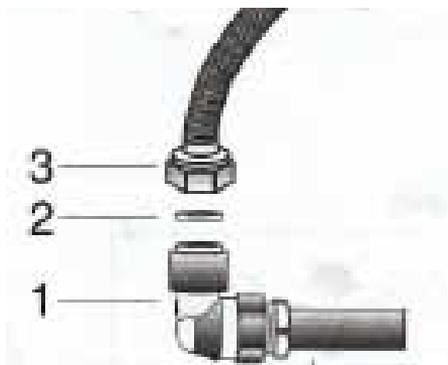

Figure 5
- ❖ Metal seals use the combination according to the standards. **(See Figure 5)**